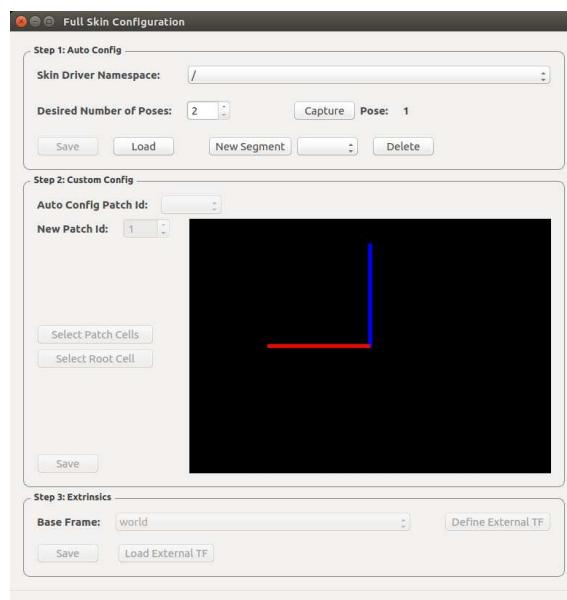

Figure 7.1: Step 1.1
1. If you don't need a namespace use “/”, see Fig. 7.1. For simple patches 2 poses is ok as default.